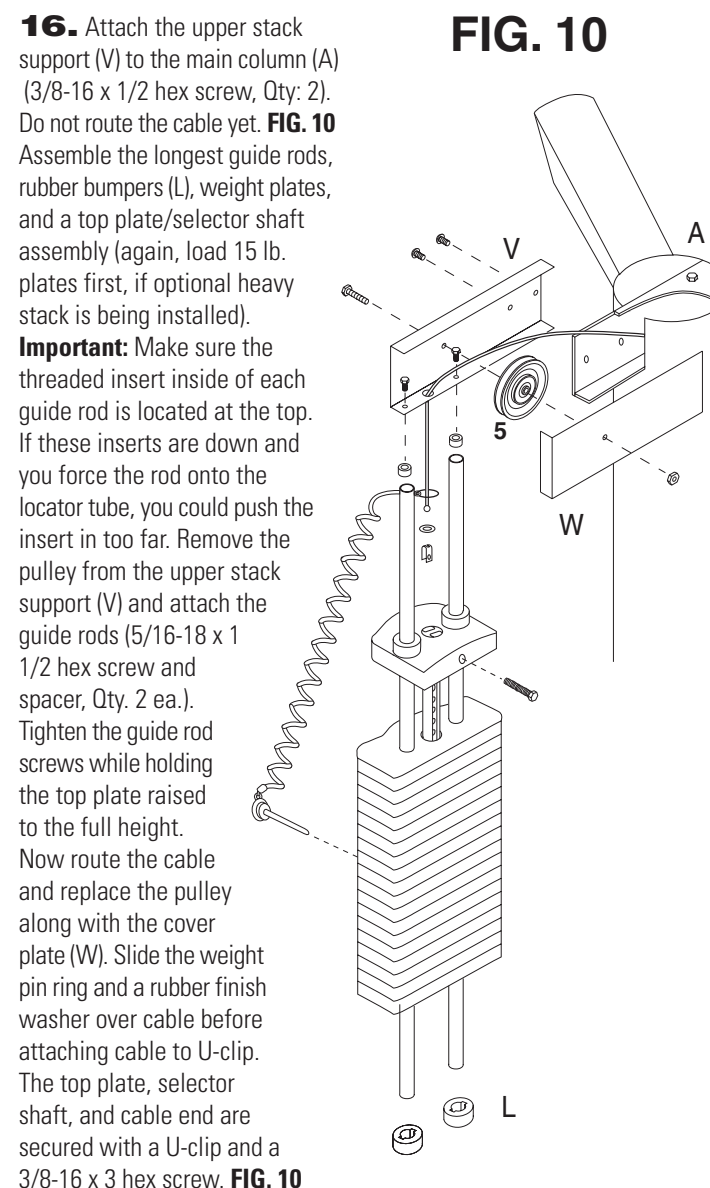

FIG. 10
16. Attach the upper stack support (V) to the main column (A) (3/8-16 x 1/2 hex screw, Qty: 2). Do not route the cable yet. **FIG. 10** Assemble the longest guide rods, rubber bumpers (L), weight plates, and a top plate/selector shaft assembly (again, load 15 lb. plates first, if optional heavy stack is being installed). **Important:** Make sure the threaded insert inside of each guide rod is located at the top. If these inserts are down and you force the rod onto the locator tube, you could push the insert in too far. Remove the pulley from the upper stack support (V) and attach the guide rods (5/16-18 x 1 1/2 hex screw and spacer, Qty: 2 ea.). Tighten the guide rod screws while holding the top plate raised to the full height. Now route the cable and replace the pulley along with the cover plate (W). Slide the weight pin ring and a rubber finish washer over cable before attaching cable to U-clip. The top plate, selector shaft, and cable end are secured with a U-clip and a 3/8-16 x 3 hex screw. **FIG. 10**